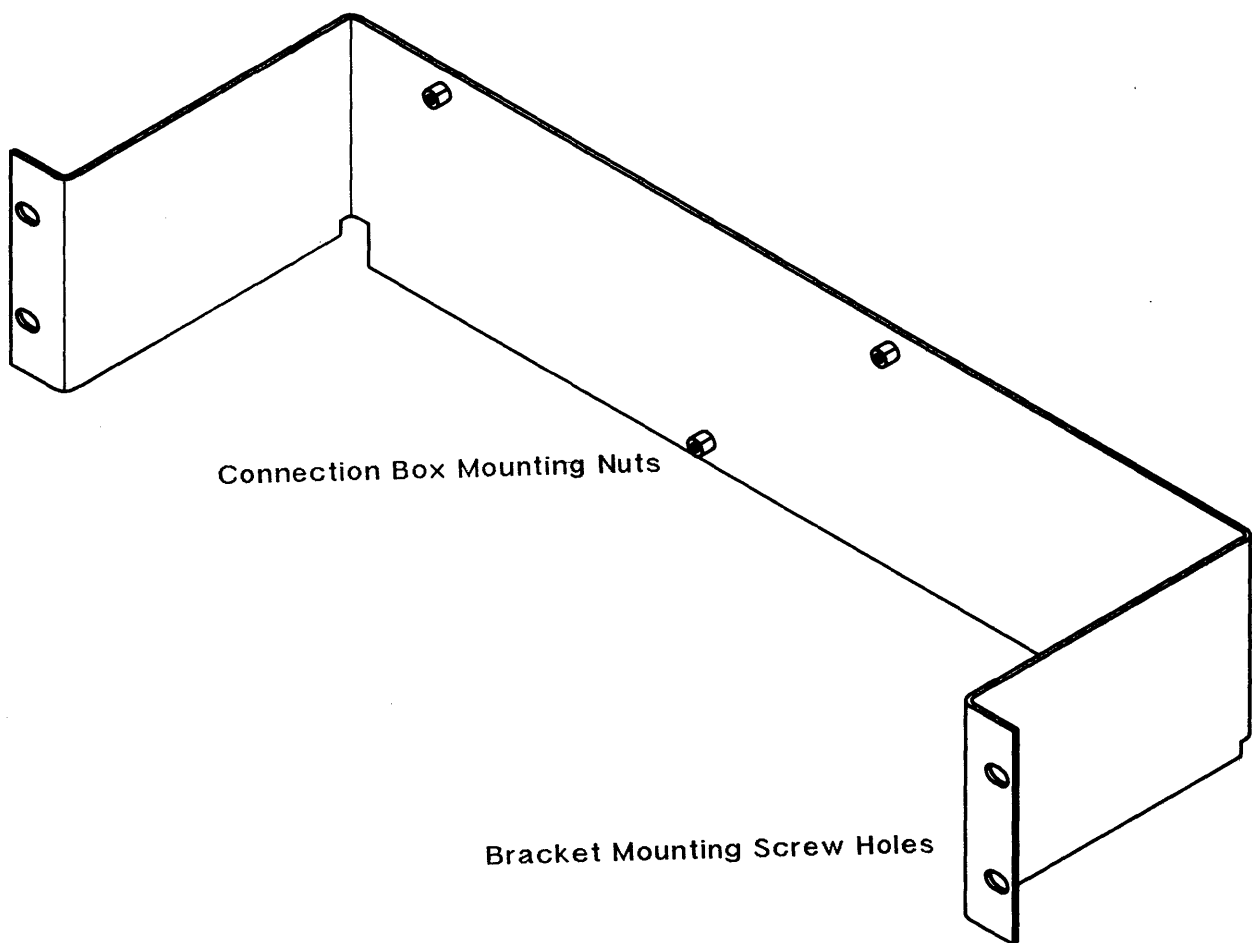

Figure 3. Option #019: Mounting bracket for RS-232-C connection box
2. Verify that the Memory Configuration jumper is installed properly for the EPROMs and RAMs installed on the card. The memory jumper is an internally-connected, 18-pin, dual in-line package (DIN) shunt network. To verify that the jumper is configured correctly, determine which EPROMs and RAMs are installed in sockets U64 and U74, then refer to Table 2 to verify that the correct jumpers are closed. (Figure 3 shows the jumper plug pins.)
The optional mounting brackets for the RS-232-C connection box are shown in figures 3, 4, and 5.